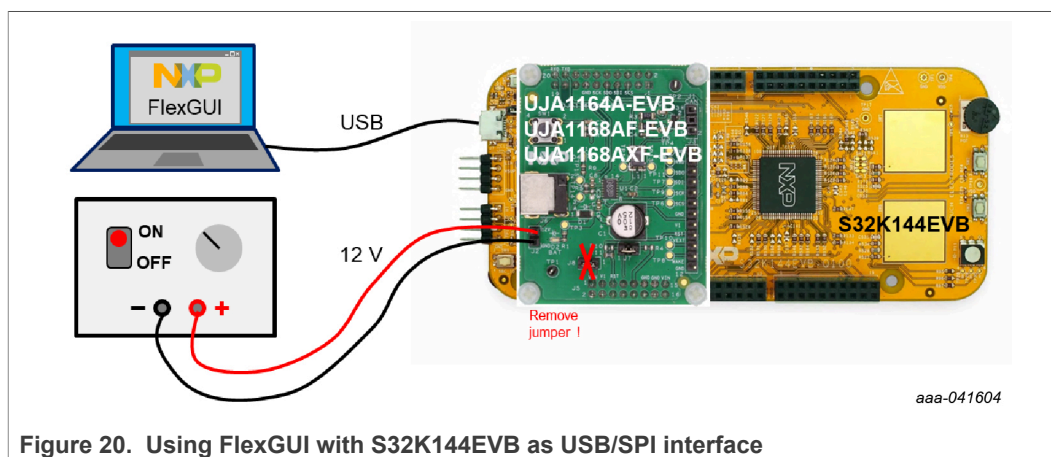

Figure 20. Using FlexGUI with S32K144EVB as USB/SPI interface
- S32K144EVB, Rev. B (Figure 20)
A 12 V power supply needs to be connected to header J2 or to jack J6 on the UJA116xA-EVB (see also Figure 20). It supplies the BAT pin of the SBC via a polarity protection diode.
To establish a connection between the FlexGUI and the hardware, the microcontroller board needs to be connected to the PC with a USB cable and a battery supply provided for the UJA116xA-EVB (see Figure 20). Note that it may take a few seconds for the PC operating system to detect the connection and locate the appropriate USB driver.